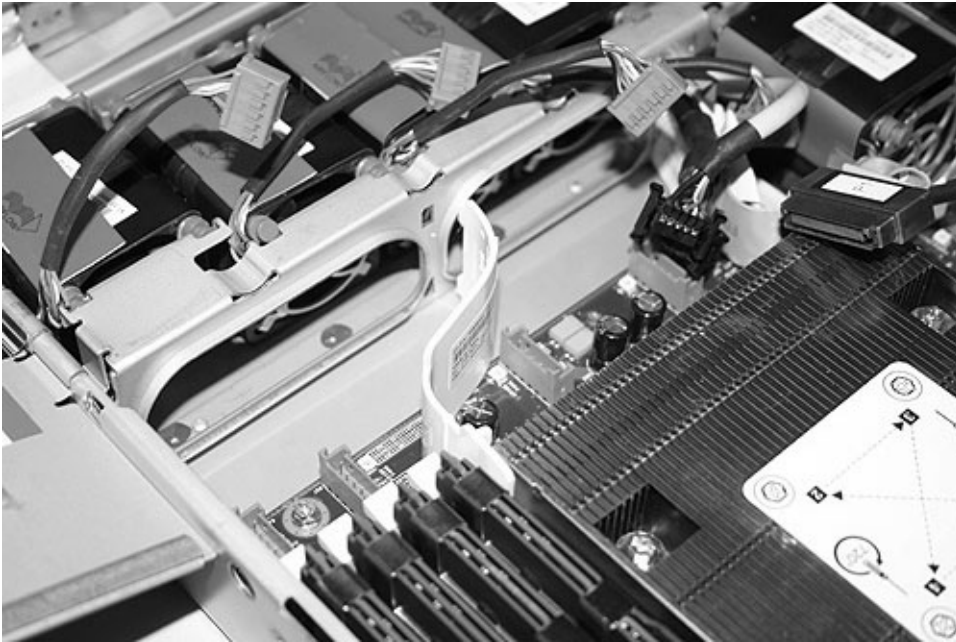

Figure 298. Right air baffle on the SAN Volume Controller 2145-8G4 system board
9. Replace the right air baffle, which is shown in Figure 298 on page 314.